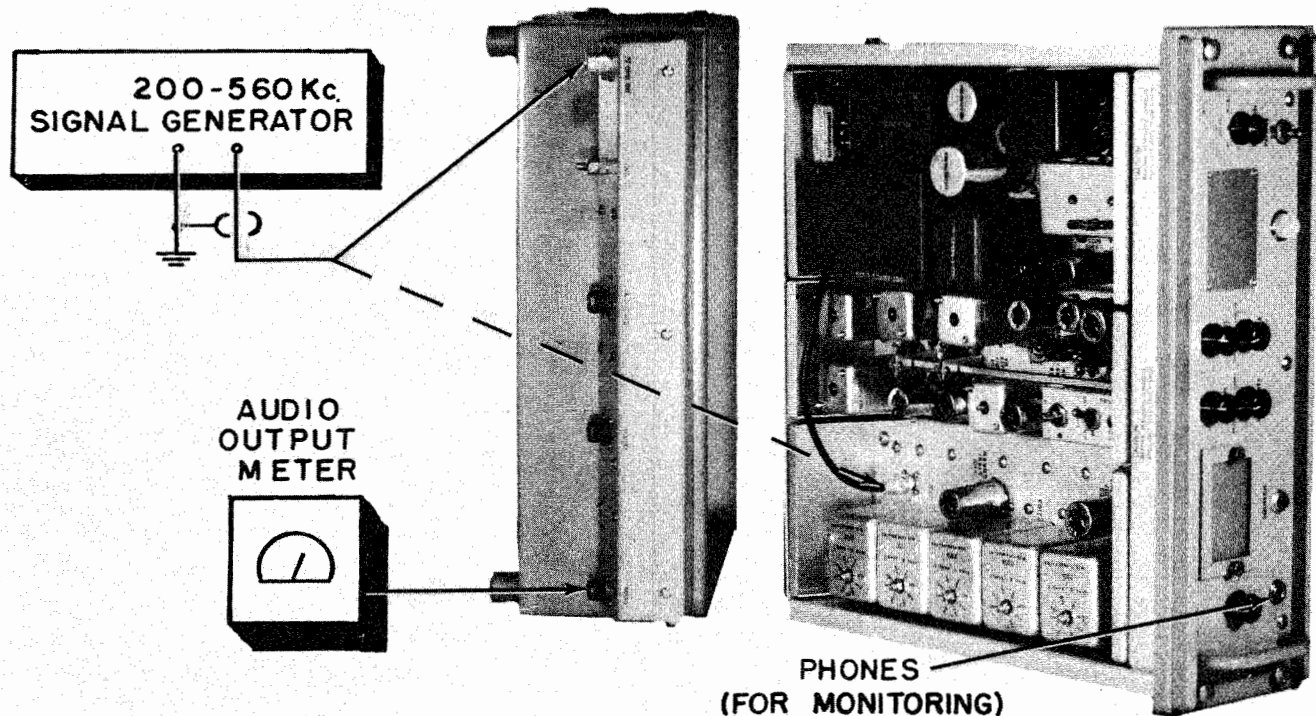

Figure 7-11. Photo—Sensitivity Test Set-up
(2) Connect a 600 ohm audio output meter across pins A and B of the AUDIO receptacle (J505) located on the rear panel. (See figure 7-11.) Proceed with the test, as outlined in tables 7-8, 7-9.